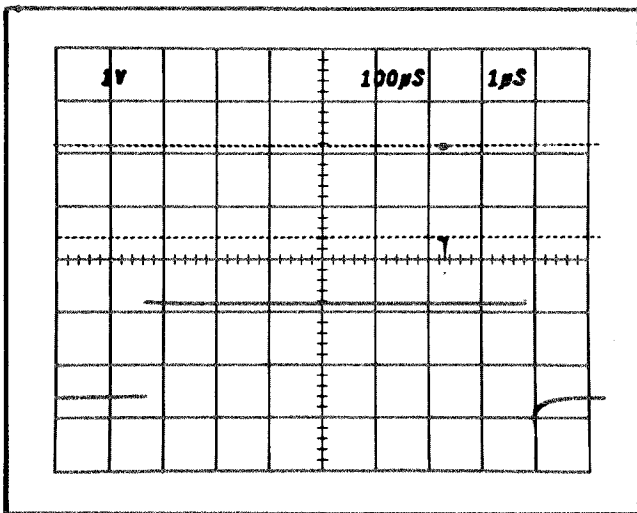

Fig. 2-13. Using delayed sweep for sweep magnification.
**Example:** Assume the first dial setting is 2.23 and the second dial setting is 7.73 with the TIME/DIV set to 5  $\mu\text{s}$  (see Fig. 2-13).
**Example:** The apparent magnification of the display shown in Fig. 2-13 with an A TIME/DIV setting of .1 ms and a B TIME/DIV setting of 1 µs is: